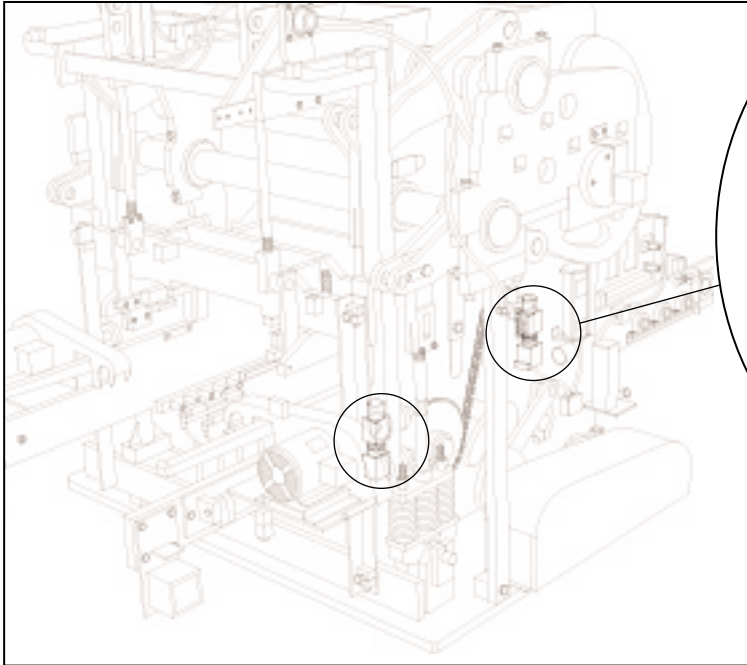

Figure 4.23 BOLTS AT ALL 4 CORNERS. (RIGHT SIDE SHOWN)
- b. Loosen bolts at all 4 corners that secure mold throat assembly (see figures 4.23 and 4.24). Remove top spacers.